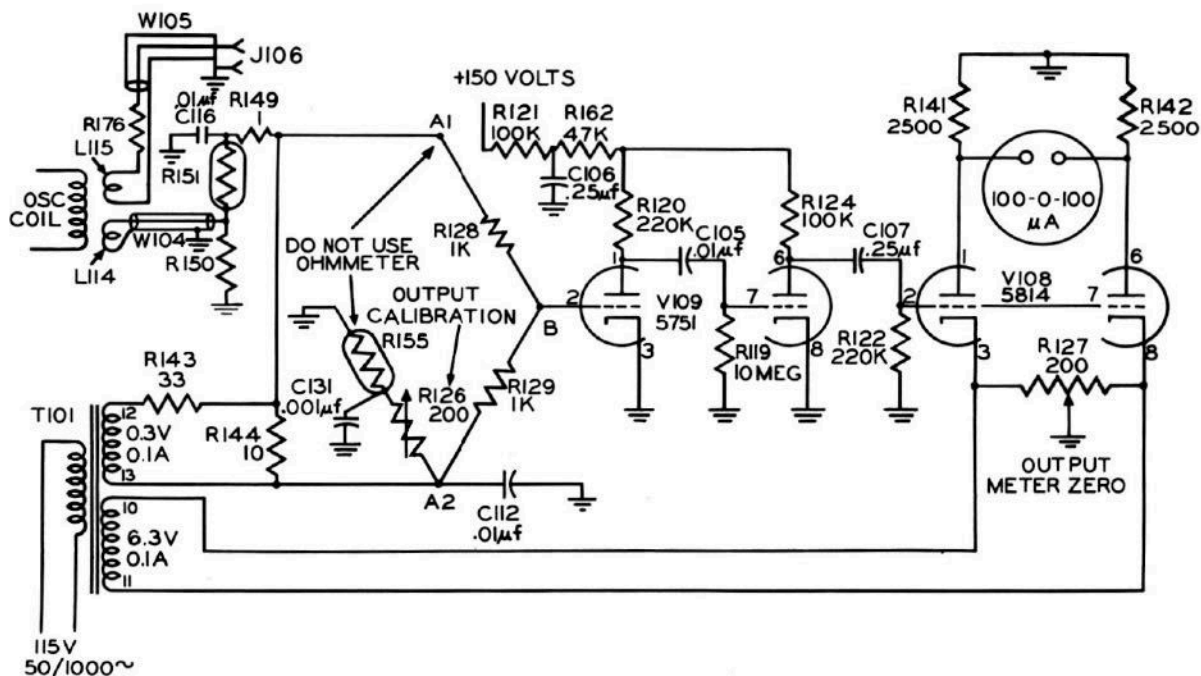
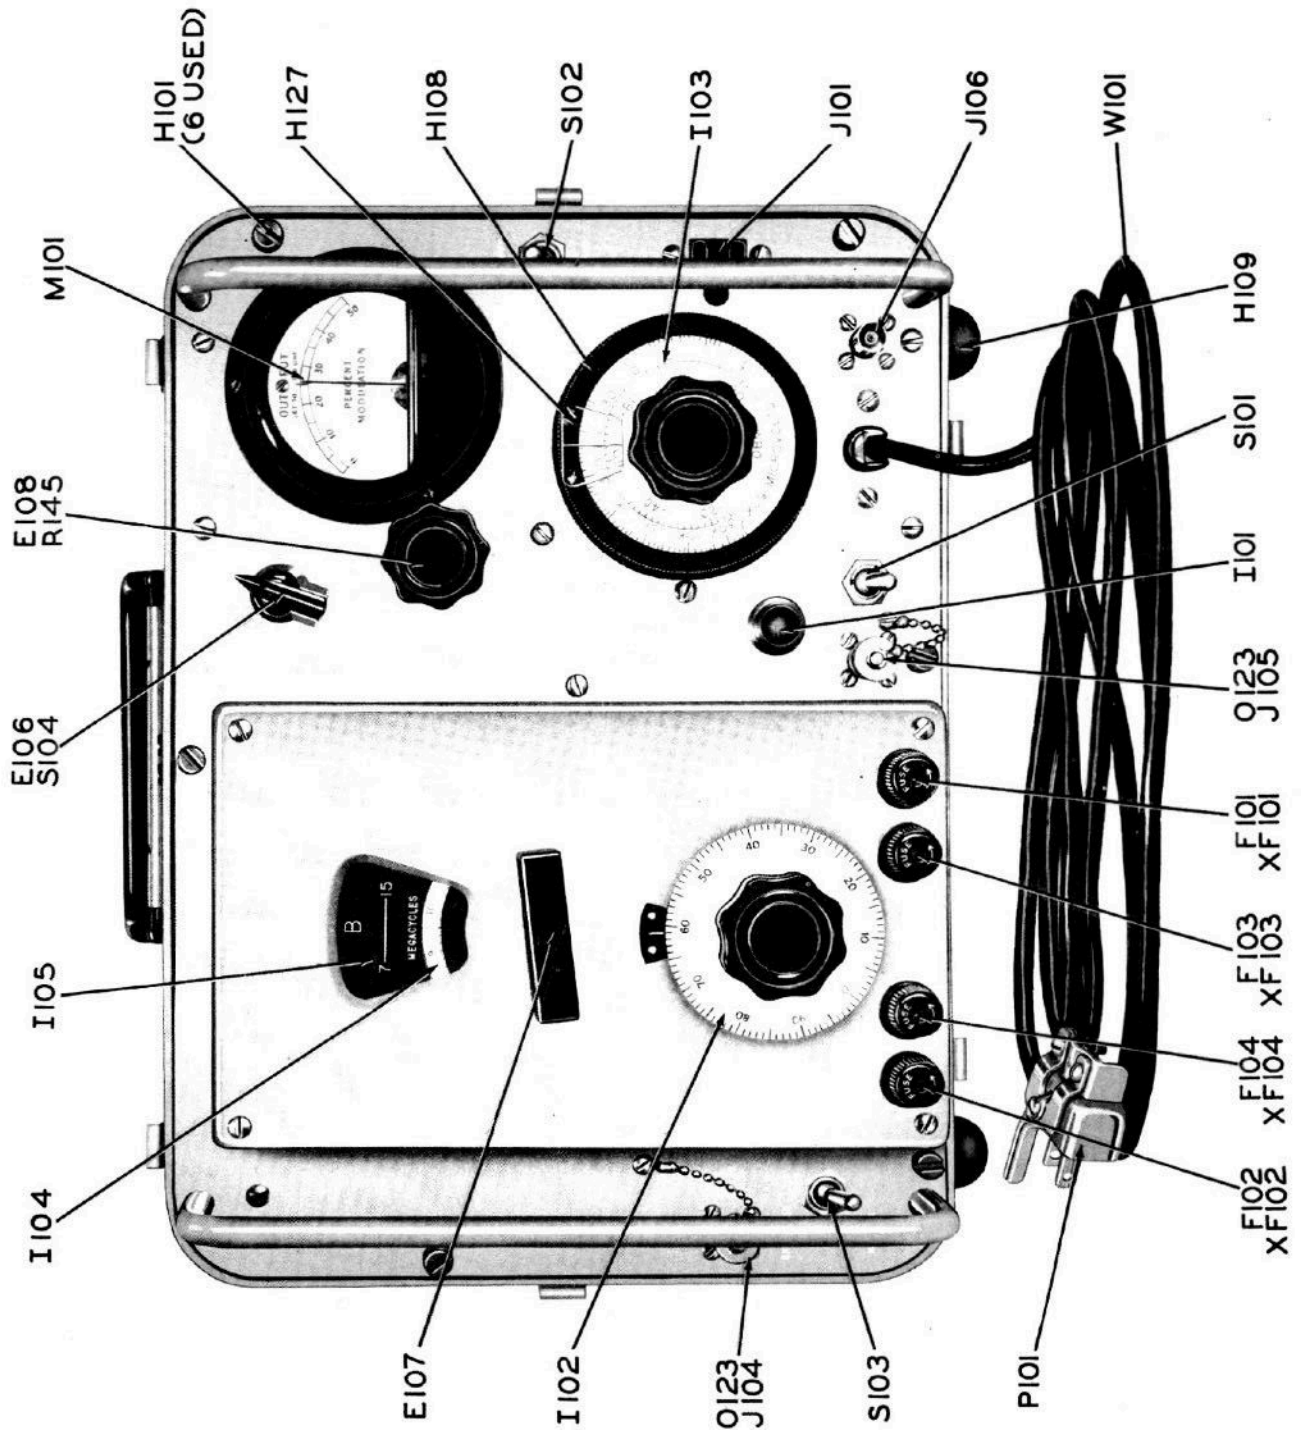

Figure 2-5. RF Signal Generator SG-45A/URM-26, Functional Schematic Diagram, RF Monitor
Figure 4-1. RF Signal Generator SG-45A/URM-26, Front Panel Diagram
The OUTPUT index (see figure 4-1) moves both L-114 and L-115 simultaneously and equally. The positioning of L-114 determines the voltage applied to the bolometer bridge which, in turn, establishes the reference output voltage level. The MICRO-VOLTS dial moves L-115 only and, when L-114 is properly positioned, indicates the voltage across a terminated 50-ohm cable.
d. RF OUTPUT MONITOR CIRCUIT: The output voltage reference level is established by adjusting the OUTPUT index (see figure 4-1) to bring the output meter pointer to the red line. This setting indicates that the high frequency bolometer bridge is in balance. A functional schematic diagram of the bolometer bridge which serves as monitor of RF output is shown in figure 2-5.
For the purpose of simplification, RF filter circuits have been omitted from figure 2-5. The action of the meter tube V-108 is explained in paragraph 2-4c. It is sufficient at this time to state that, with no voltage on the grids of V-108, the meter M-101 reads at center scale; the presence of an ac voltage on these grids will cause the meter to deflect from center scale, the direction being determined by the relative phase of this voltage with respect to the voltage appearing between the cathodes and ground.
(1) Referring to figure 2-5, resistors R-126, R-128, R-129, and bolometers R-151 and R-155 form a Wheatstone bridge circuit which is driven by the ac potential across A1-A2. When the voltage drop across R-128 equals that across R-149 and R-151 and the voltage drop across R-129 equals that across R-126 and R-155, no potential difference will exist between point B and ground; this is known as a balanced bridge and is the condition that establishes the output voltage reference level.
(2) Bolometers R-151 and R-155 each consist of a fine platinum wire, sealed in an evacuated glass tube. Current from the RF source and from the 0.3-volt winding of transformer T-101, flowing through these bolometers, will heat their elements thereby causing changes in resistance. In the bridge circuit of figure 2-5, current at power line frequency will flow through both bolometers but current from the RF oscillator flows only through bolometer R-151, being by-passed to ground by capacitor C-116. At RF, resistor R-150 is in shunt with R-151 and serves to terminate cable W-104 in 50 ohms. At power frequencies, R-150 is effectively short-circuited by coil L-114 and, therefore, forms no part of the bridge.
(3) When bridge is balanced, meter M-101 reads at center scale. Displacing the position of L-114 will increase or decrease the resistance of R-151 thereby unbalancing the bridge and causing meter M-101 to read right or left of center scale.
f. Referring back to figure 2-5, the relative phase of the voltage applied to the grids of tube V-108 with respect to the voltage on the cathodes is determined by the resistance of bolometer R-151. When the resistance of R-151 is greater than the value required for balance, (this occurs when L-114 is coupled too tightly to the RF oscillator) the phase of the voltage applied to the grids of tube V-108 will cause meter M-101 to deflect to the right. When coil L-114 is too loosely coupled to the oscillator, the value of R-151 will be less than that required for balance and the phase of the grid voltage at tube V-108 will cause the meter to deflect to the left.
(1) The two-stage amplifier represented by V-109 serves merely to increase the sensitivity of the meter circuit by increasing the magnitude of the voltage developed between point B and ground as a result of bridge unbalance.
c. The following preliminary settings and checks are required prior to placing the signal generator in operation (see figure 4-1, Section 4).
- (1) Place ON-POWER switch S-101 at POWER.
- (2) Make required output connections to equipment under test (see Section 4).
- (3) Rotate MICROVOLTS-DBM dial I-103 to maximum counter-clockwise position.
- (4) Place NORMAL-EXT PULSE ONLY switch S-103 at NORMAL.
- (5) Place AMPLITUDE MODULATION switch S-104 at OFF.
- (6) Rotate % MOD control E-108 fully counter-clockwise.
- (7) Connect power cable W-101 to 115 vac source.
- (8) Place ON-POWER switch at ON.
- (9) Allow equipment to warm up for at least 15 minutes.
*a.* Panel controls of RF Signal Generator SG-45A/URM-26 are identified in figure 4-1.
(1) The range desired is selected by means of the bar knob beneath the window.
(2) Tuning is varied by the indicator dial directly below the bar knob. This dial has 100 uniform divisions. The dial drive disengages when the frequency dial stops are reached. By pushing the knob toward the bottom of the panel, the tuning drive may be disengaged at any time and the dial repositioned as desired.